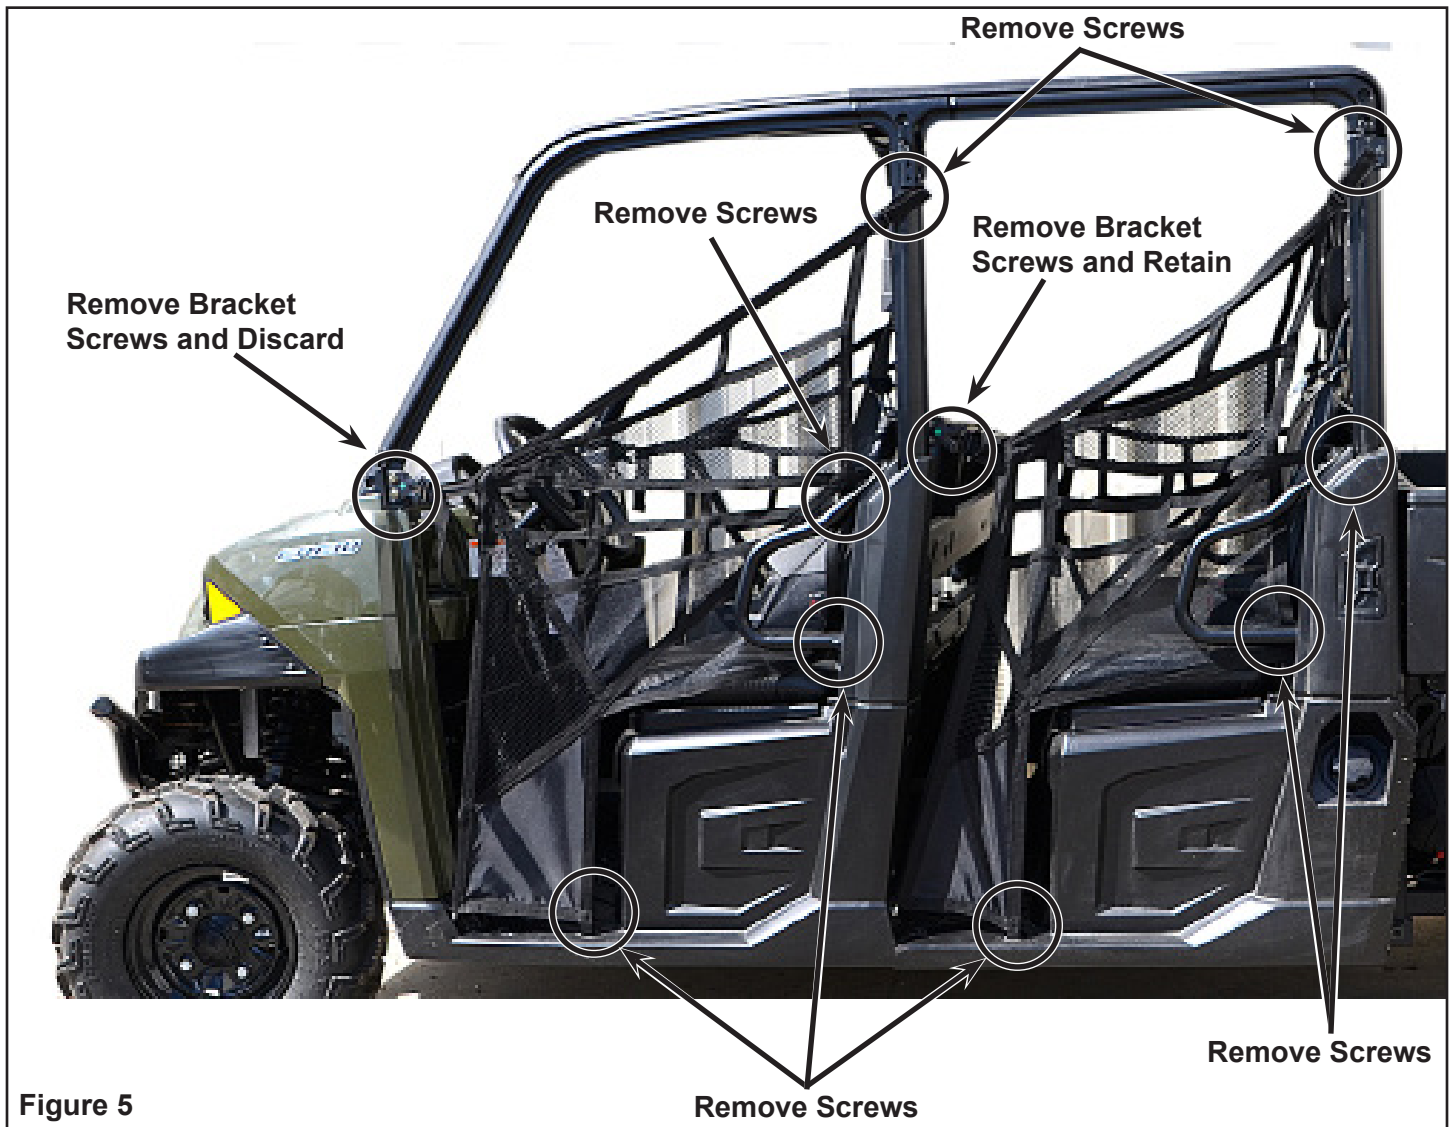

Figure 5
- Remove all the door nets. Retain all B and C-pillar fasteners for reinstallation. Retain fasteners removed from rear door net buckle as they will be re-used for mounting the door striker bracket. Do not re-use fasteners removed with front door net buckle; they are replaced with other fasteners in the front door hardware kit. Figure 5.